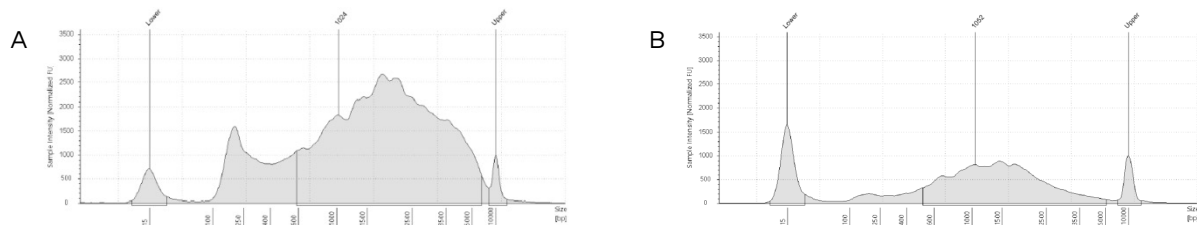

Figure 1: cDNA traces using control RNA (A) and Single cell (B)
250pg of Control RNA and single cells were used to extract RNA, prepare DNA and amplify Libraries using Takara SMART-Seq HT Kit and SMART-Seq HT PLUS Kit. The cDNA and library sizing was done using the Thermo Fisher Scientific Qubit dsDNA Broad Range Quantitation Assay and Agilent DNA 5000 Assay. The quantified cDNAs were in the range of 12ng/µl range for control RNA and the single cells were in the range of 1.5ng/µl. Fig 1 demonstrates the cDNA trace from control RNA (A) and single cell (B).